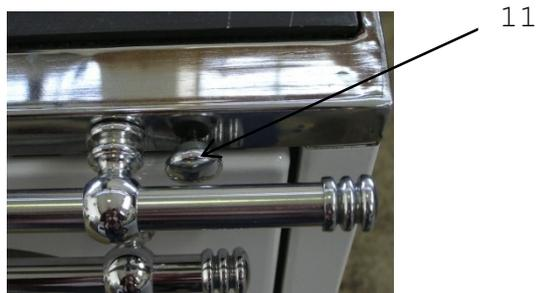

Fig. 3
Moving of the heating flap is performed by activating the knob (figure 3, position 11) which is positioned above the oven door. It is used for shortening of the path of flue gases during stoking.
- * Open the primary air regulator at the highest level of air release (figure 3, position 9)